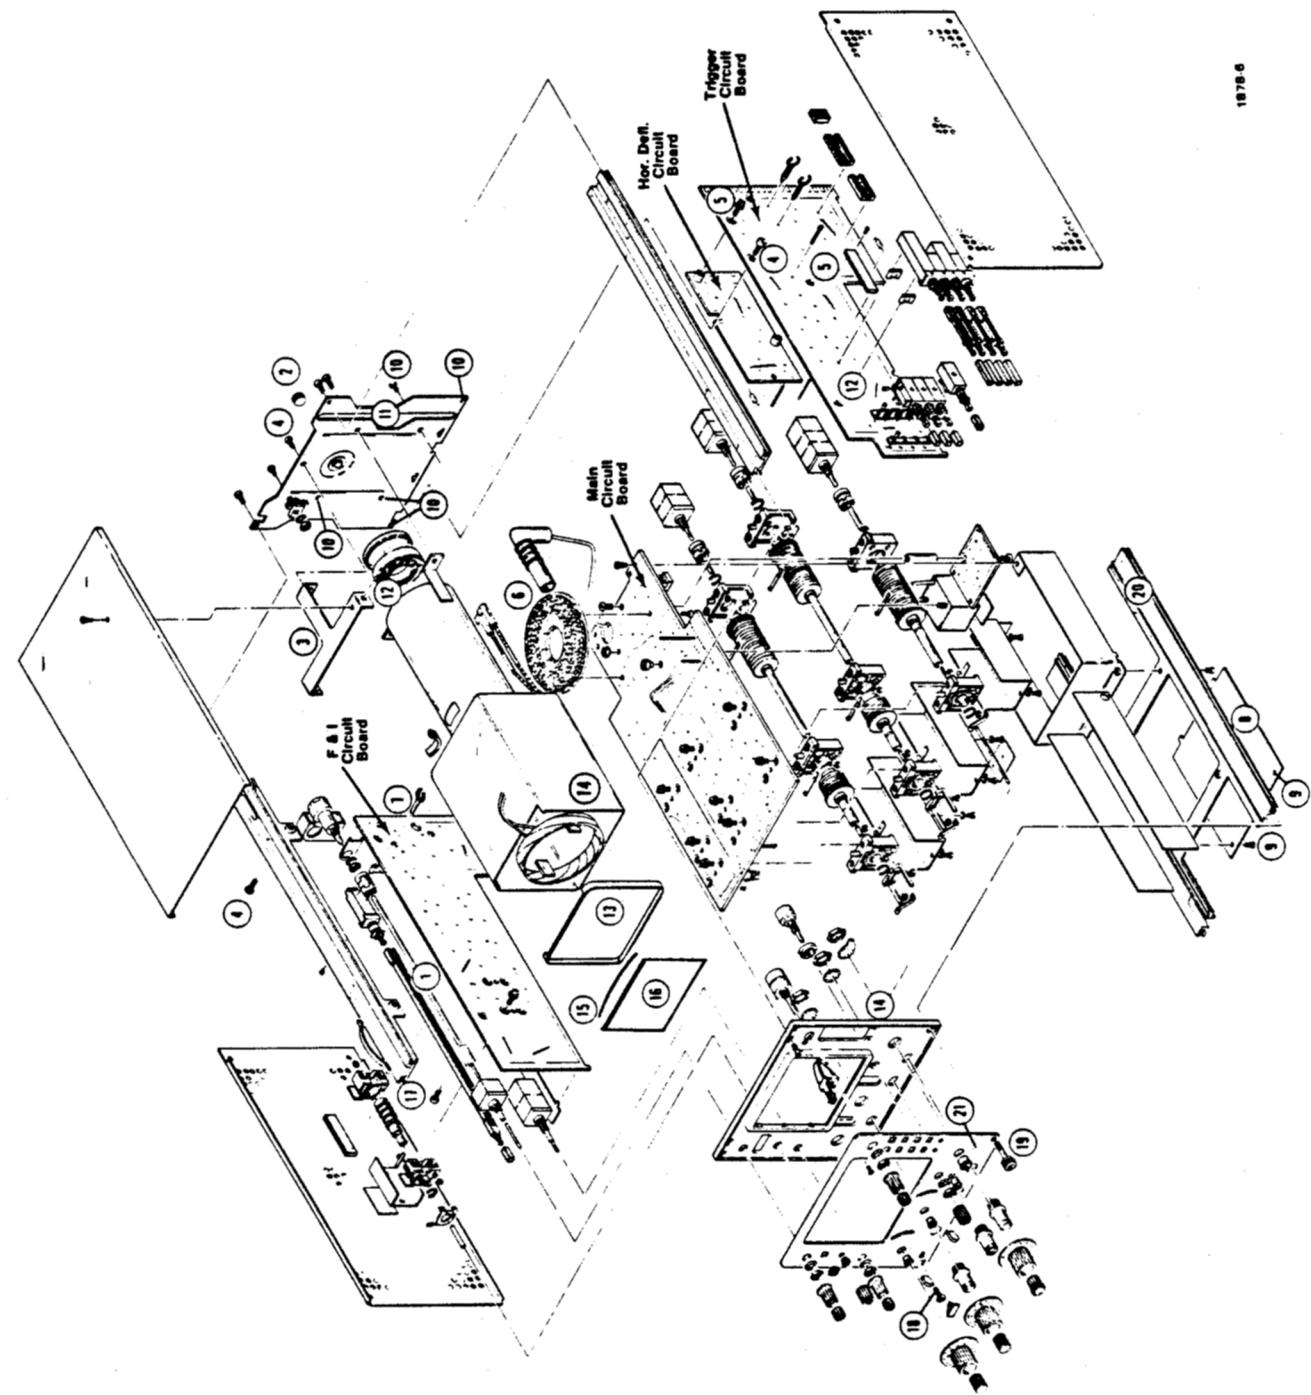

Fig. 5-1. Replacing the cathode-ray tube, and circuit board removal.
The following procedure outlines the removal and replacement of the cathode-ray tube. Refer to Fig. 5-1.
1. Remove the instrument vented electrical shields (side covers), the top cover, and remove crt filter (16) with spring (15) from front of crt.
2. Disconnect the FOCUS extension shaft (1) from the focus potentiometer.
3. Loosen black thumb screw (2). Remove the "T" bracket (3) which is held with three screws (4).
4. Remove the two screws (5) holding the hor def circuit board. (It's not necessary to remove board, just 8-pin ribbon connector and two horizontal deflection pin wires.) Lift the board slightly away from the SC 502 and disconnect the 8-pin ribbon wire connector and the two horizontal crt deflection pin leads.
5. Disconnect the coaxial cable 10-pin connector from the back of the F & I circuit board along with the trace rotation coil 2-pin connector. Also, disconnect the coaxial cable 4-pin connector and coaxial cable 2-pin connector from the back of the Trigger Circuit board. Don't remove (6) from (7). (6) would then be in the way of crt shield. Momentarily touch the crt end of the anode connector to chassis ground to discharge any voltage.
6. Remove the high-voltage shield (8), which is held by the two screws (9). Remove the 3-pin ribbon wire connector from Q970, which is mounted on the rear panel. Remove the eight screws (10) and remove the rear panel (11) being careful to not lose two board insulators. (See Fig. 5-1.)
7. Disconnect the crt socket (12) and the two crt vertical deflection pin leads, then lift out the crt shield with the crt inside.